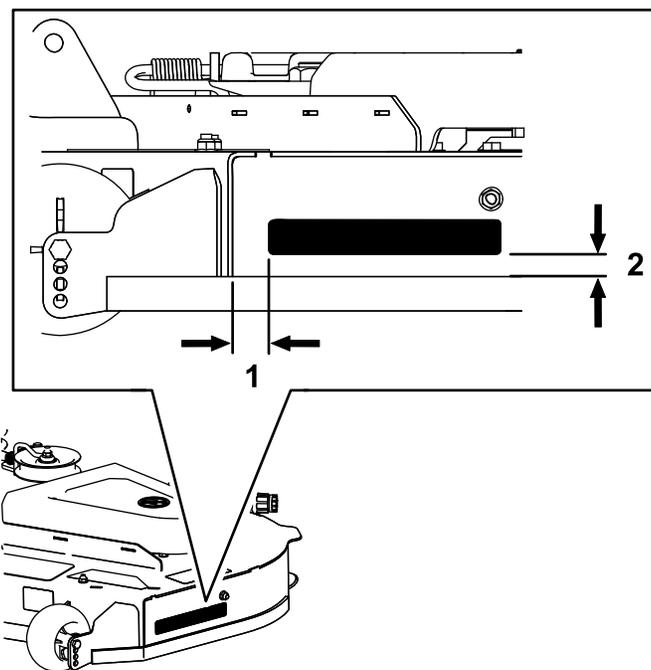

**Figure 15**
- **For 54-inch and 60-inch decks**, remove the existing fasteners from the holes shown in Figure 15, and install the left baffle using 4 nuts (5/16 inch) and 1 carriage bolt (5/16 x 3/4 inch).